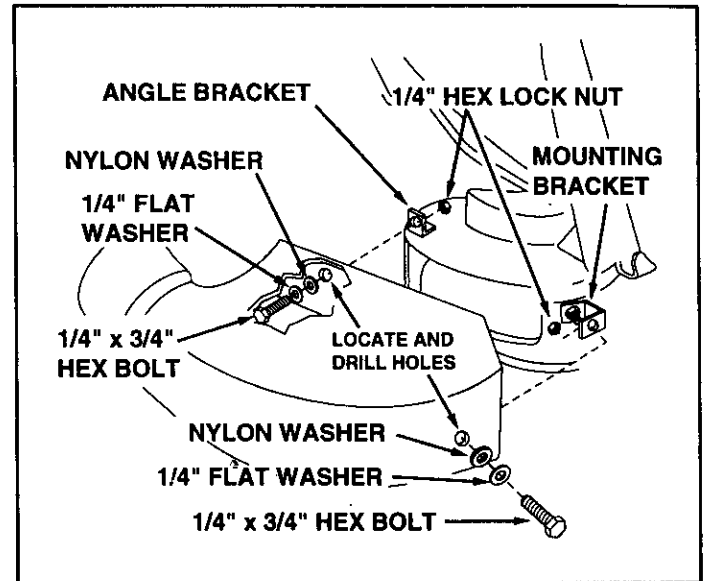

FIGURE 35
- Fasten the angle bracket and the mounting bracket to the mower deck as shown in figure 35. Use two 5/16" x 3/4" carriage bolts, 5/16" flat washers and 5/16" lock nuts. The bolt heads go on inside of mower deck.
- Drill two 5/16" diameter holes in the deck adapter that will align with the holes in the angle bracket and the mounting bracket. Assemble the deck adapter to both brackets using two 1/4" x 3/4" hex bolts, 1/4" flat washers, nylon washers and 1/4" hex lock nuts. See figure 35.